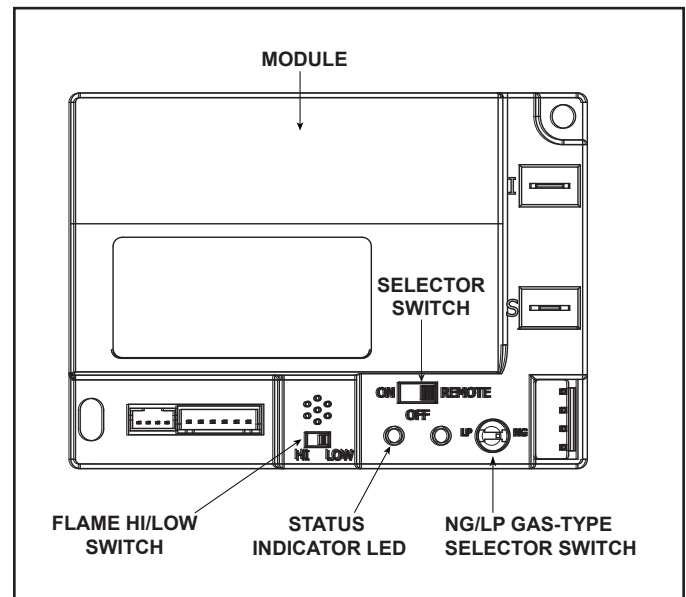

Figure 6. Control Module
The control module has an ON, OFF, and REMOTE selector switch that must be set prior to fireplace operation. See Figure 6.
- To adjust the flame height with a optional remote control (RC200 or RC300) the FLAME HI/LOW switch must be in the HI setting. IF the FLAME HI/LOW is in the LOW setting, the optional remote (RC200 or RC300) will no longer adjust the flame height. See Figure 6.
- Locate the module SELECTOR SWITCH. See Figure 6.
- Wait five (5) minutes to allow for any potential accumulated gas to clear.